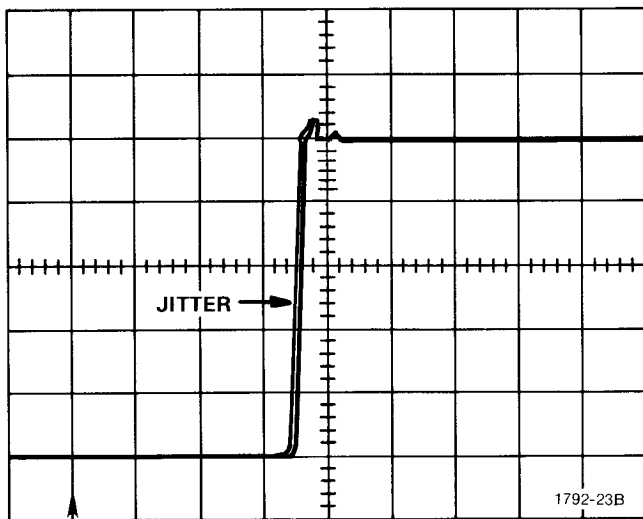

Fig. 4-2. Jitter Check.
21. Check that the jitter is not greater than 0.1 division (200 ps). See Fig. 4-2.
49. Check that the jitter is not greater than 0.1 division (200 ps). See Fig. 4-2.